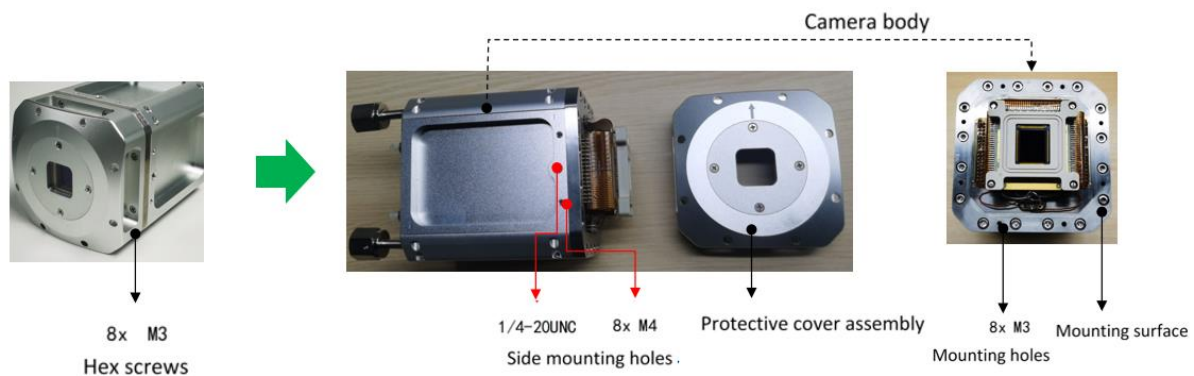

Figure 4-3 Mounting and fixing holes for the XV95 camera
(2) According to your actual usage requirements, remove the detachable protective window or shell. As shown in Figure 4-3, remove the eight M4 hex screws around the protective cover to expose the camera's mounting surface. (*After this step, the camera sensor will be exposed to the environment, risking contamination or damage. Perform this operation in a clean room.*)
(3) Fix the camera into the vacuum chamber. As shown in Figure 4-3, use the eight M3 threaded holes on the mounting surface or the eight M4 threaded holes or four 1/4-20UNC threaded holes on the side of the camera to secure it.